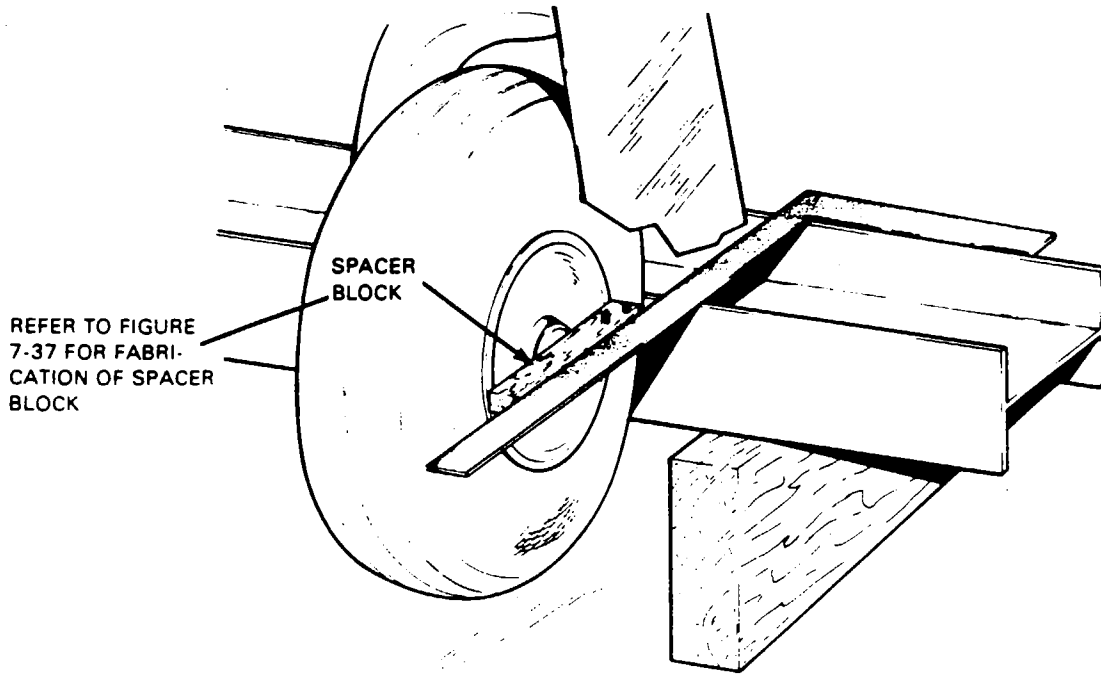

Figure 7-11. Aligning Main Gear
- b. Place a spacer block against the wheel rim at the hub line, with the wide end toward the front of the wheel to check and/or adjust the landing gear for proper toe-in of .5 degree. (Refer to Figure 7-11) Set a square against the straightedge and spacer block and check to see if its outstanding leg bears against the spacer block. (A spacer block may be fabricated according to Figure 7-37.)